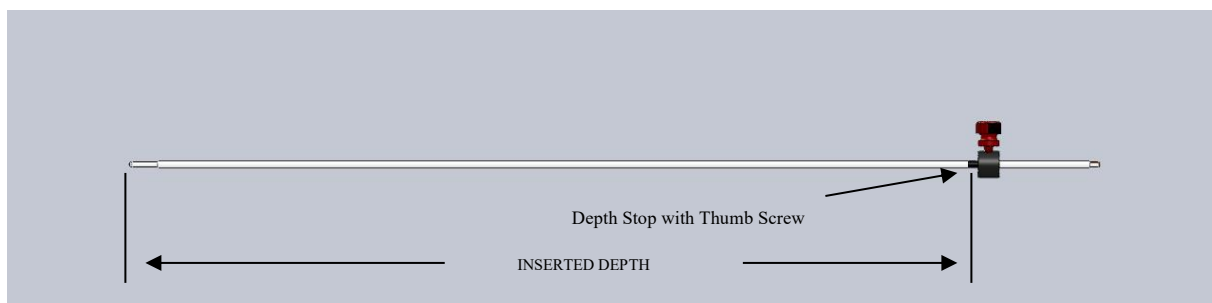

Figure 18: Stylet and Depth Stop
5. Optional: Position a Depth Stop on the Stylet; the inserted depth of the Stylet is defined by the distal side face of the Depth Stop to the distal tip of the Stylet. Slide the Stylet into Device Lock until Depth Stop rests on top of Device Lock. Then tighten the red thumb screw of the Depth Stop. Confirm the length using the Ruler. **See Figure 18.**